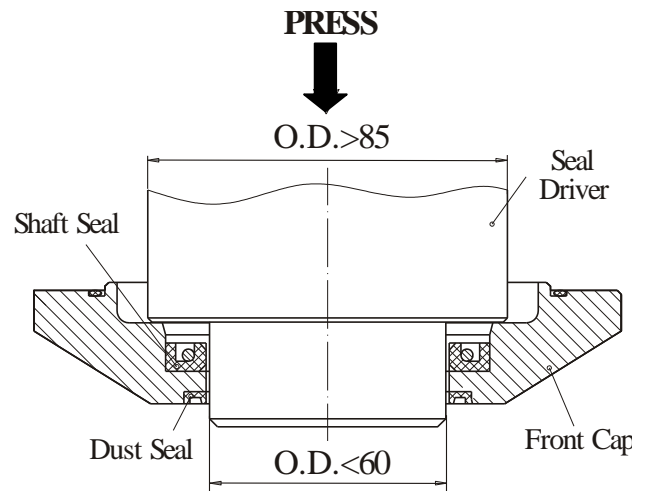

Fig.10
5. Place shaft seal in the Front cap and firmly push with Seal driver (see Fig.10).